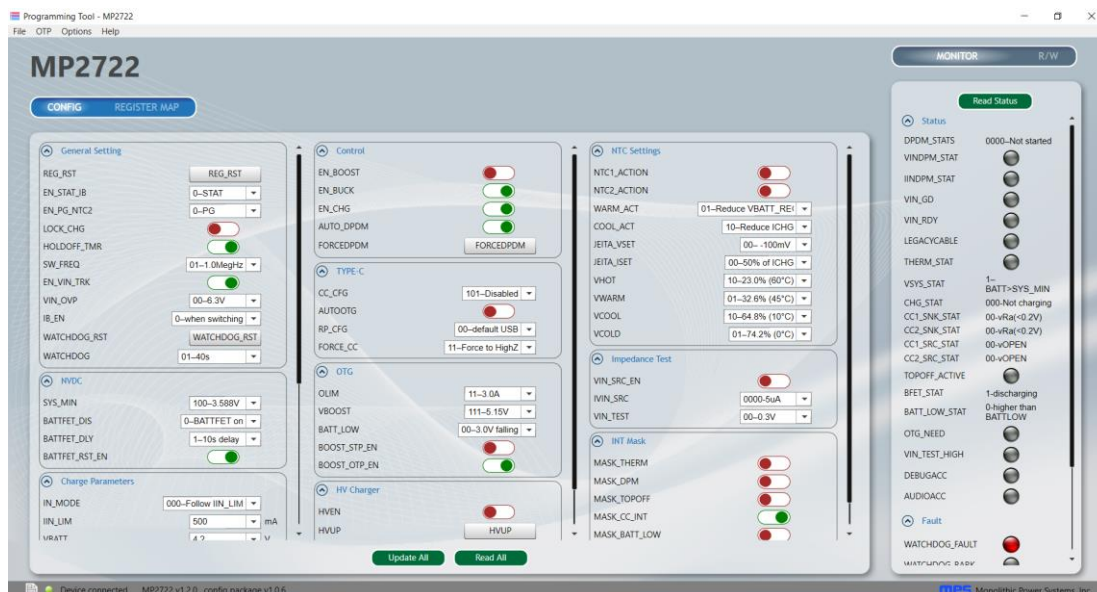

Figure 7: Connected Status Shows Successful Connection
- If the connection is successful, “Device connected” will be shown at the bottom left of the screen (see Figure 7).
3. Click the “Read All” button to read the I²C register values. The default values should be displayed (see Figure 7 on page 9).